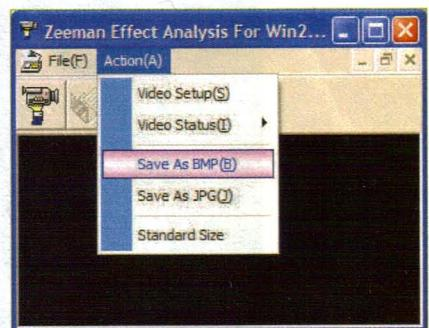

Figure 12
- The Zeeman Effect software allows you to save the captured pattern in either BMP or JPG format. Select Action(A), then choose the appropriate “Save As...” option for the format you prefer (see Figure 12).